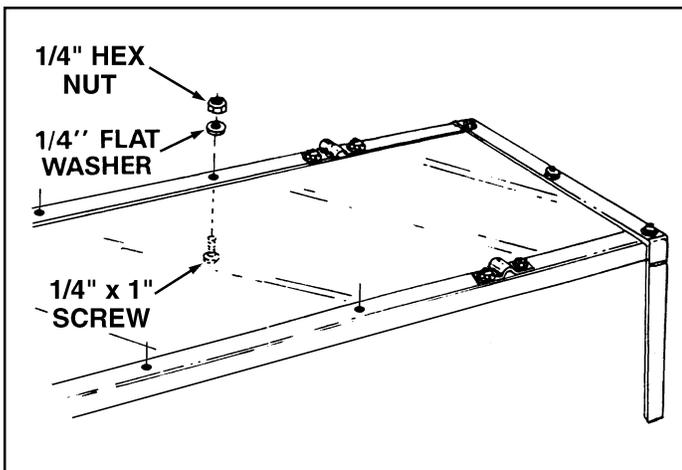

FIGURE 4
- Secure both side angle assemblies to the bottom panel using four 1/4" x 1" screws, flat washers and hex nuts. Make only finger tight until all four screws are in place, then **tighten securely**. See figure 4.